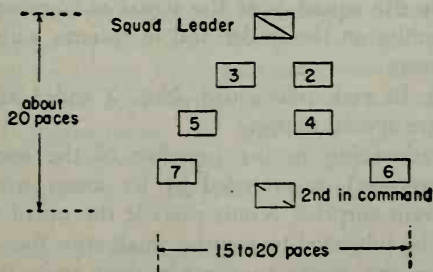

FIG. 56-3 (B)—Squad wedge.
as shown in Fig. 56-3 (B). If there is an automatic rifleman in the squad, he takes position in the center of the wedge unless otherwise directed.